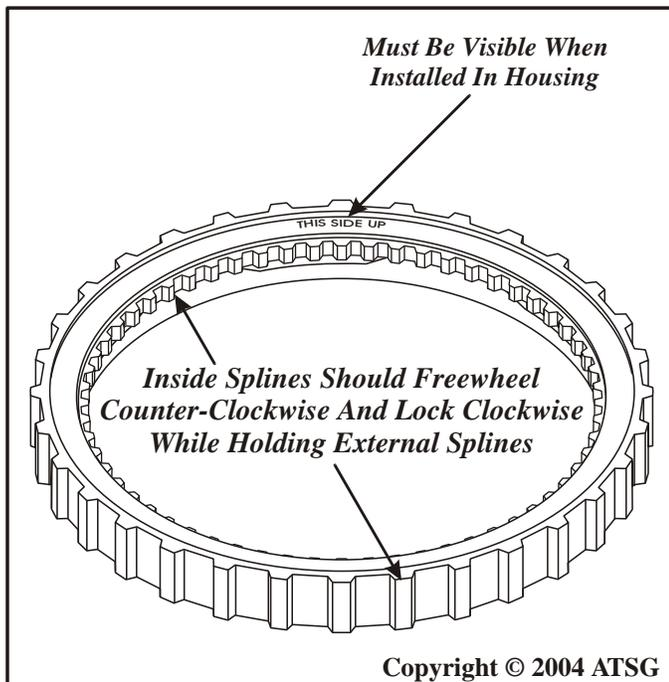

Figure 97
3. Inspect coast clutch pressure plate which now incorporates the mechanical diode one way clutch, as shown in Figure 97.
Note: Inside splines should freewheel in the direction shown in Figure 97, and lock in the opposite direction.
Note: The words "This Side Up" must be visible after installation (See Figure 97).